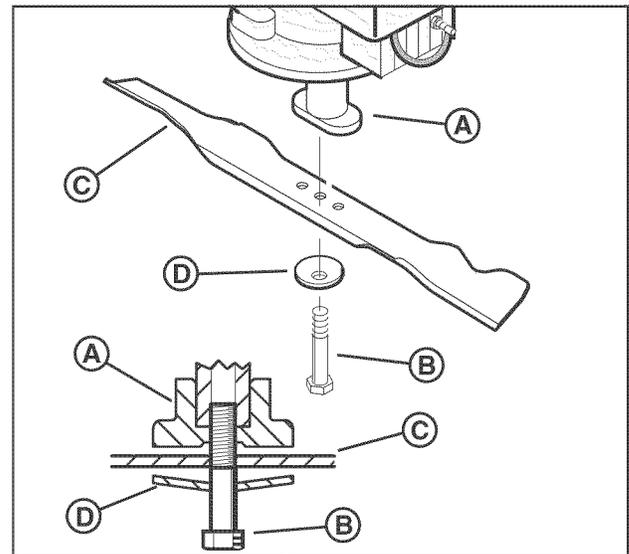

Figure 18: Removing the blade
Frequently check the blade for wear or damage such as cracks. Frequently check the bolt that holds the blade. Keep the bolt tight. If the blade hits an object, stop the engine. Disconnect the wire to the spark plug. Check the blade adapter (A, Figure 18) for damage. Check for a bent or damaged blade, a badly worn blade, or other damage. Before you operate the unit, damaged parts must be replaced with factory replacement parts. For safety, replace the blade every two years. Keep a sharp edge on the blade. A blade that is not sharp will cause the ends of the grass to become brown. Remove the blade as follows.
4. Remove the bolt (B, Figure 18) that holds the blade with a 9/16" (14mm) wrench.
5. Check the blade (C) according to the "Blade Service" instructions. Replace a badly worn or damaged blade with a factory replacement blade.
7. Fasten the blade with the original washer (D) and bolt. Make sure the outside rim of the Belleville washer is toward the blade.